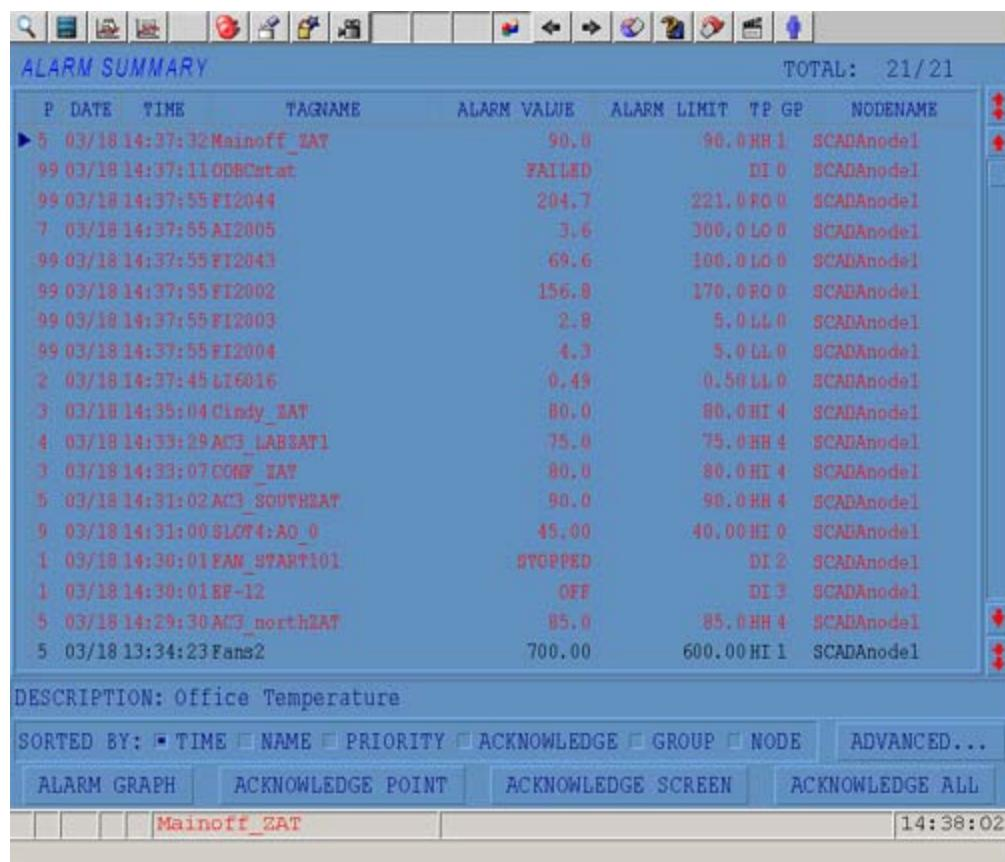

Figure 7.9 - Alarm Summary
10. The Alarm Summary Opens (Figure 7.9).